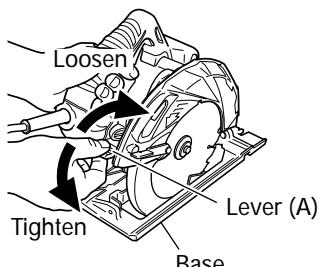
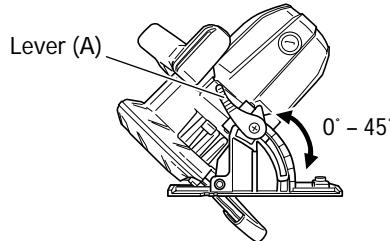

Fig. 3
Fig. 4
7. Check if lever (A)s are tightened.
If the lever (A) to adjust cutting depth (Fig. 3) and lever (A) to adjust angle of inclination (Fig. 4) are loose, injury can result. Make sure that they are tightened securely.
1. Adjusting the cutting depth (Fig. 3)
As shown in Fig. 4 by loosing the lever (A) on the bevel scale, the saw blade may be inclined to an angle of 45° in relation to the base.